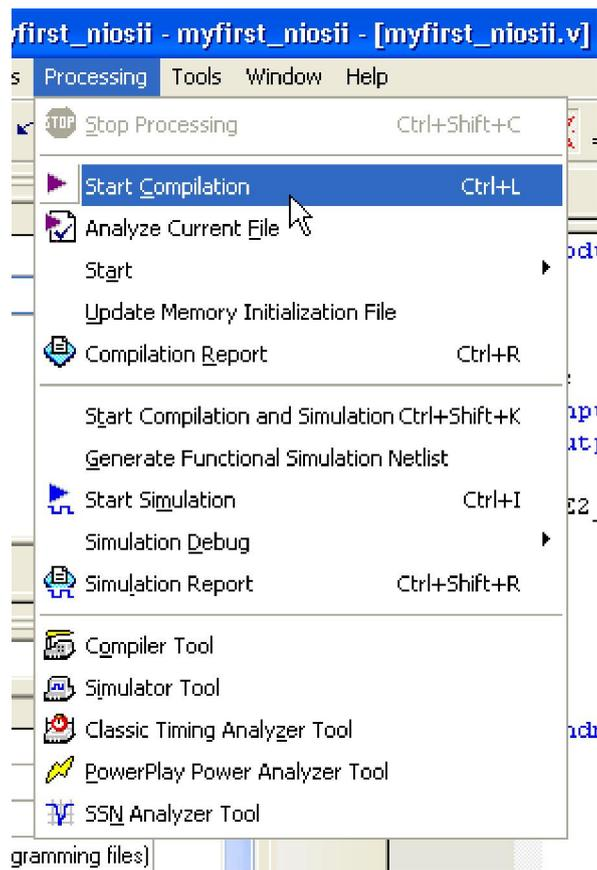
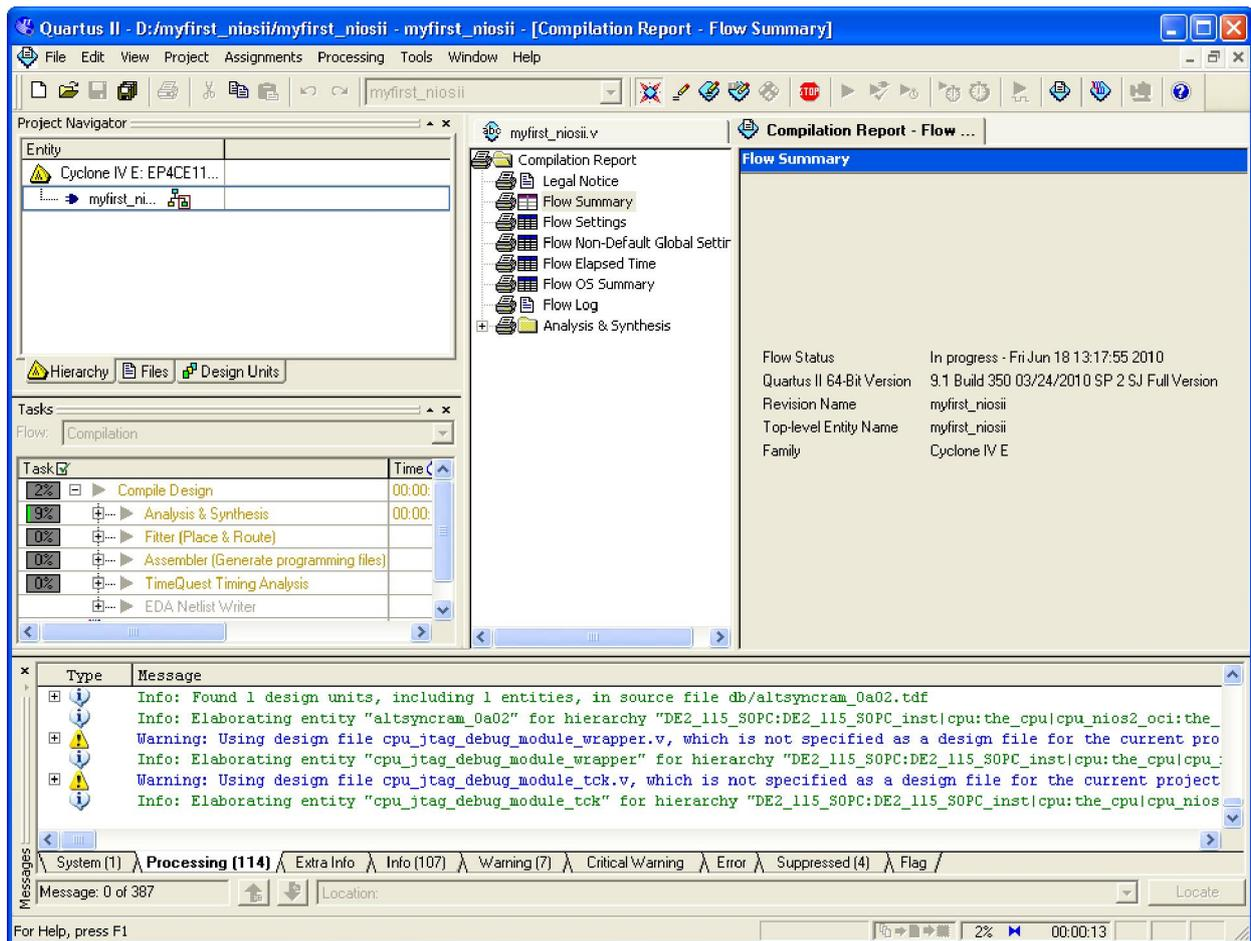

Figure 1-47 Start Compilation
Figure 1-48 Execute Compilation
36. Choose **Processing > Start Compilation** as shown in Figure 1-47. Figure 1-48 shows the compilation process.